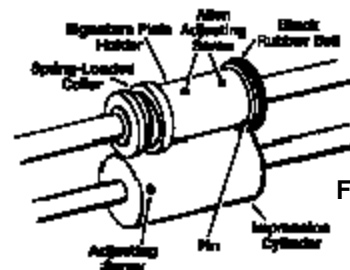

Figure 4
- Loosen the two allen screws in the signature plate holder (Refer to Figure 4).